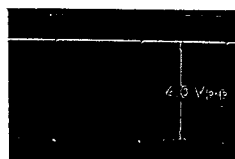

Fig. 2-3
- (1) Connect an oscilloscope to TP-3 on SG BOARD BASE.
- (2) Adjust R62 (VD LEVEL) so that a voltage of 4 Vp-p  $\pm$  0.2 V is obtained as shown in Fig. 2-3.